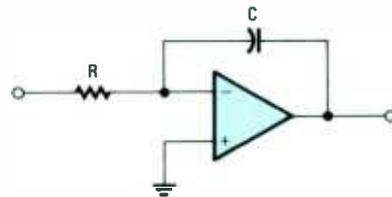

Fig. 10—An op-amp voltage integrator. It will integrate input-voltage waveforms.
25. (R, C) Another widely used op-amp circuit is the integrator shown in Fig. 10, which performs mathematical integration. The inverter configuration is used with an input resistor (R) and a feedback capacitor (C). The output is the inverted integral of the input. For example, if the input is a sine wave, the output is a cosine wave, as shown in Figure 11A. The integral of sine is $-\cosine$, but the op-amp inverts this to $+\cosine$. If the input is a cosine wave, the output is an inverted sine wave, as shown in Fig. 11B. The integral of